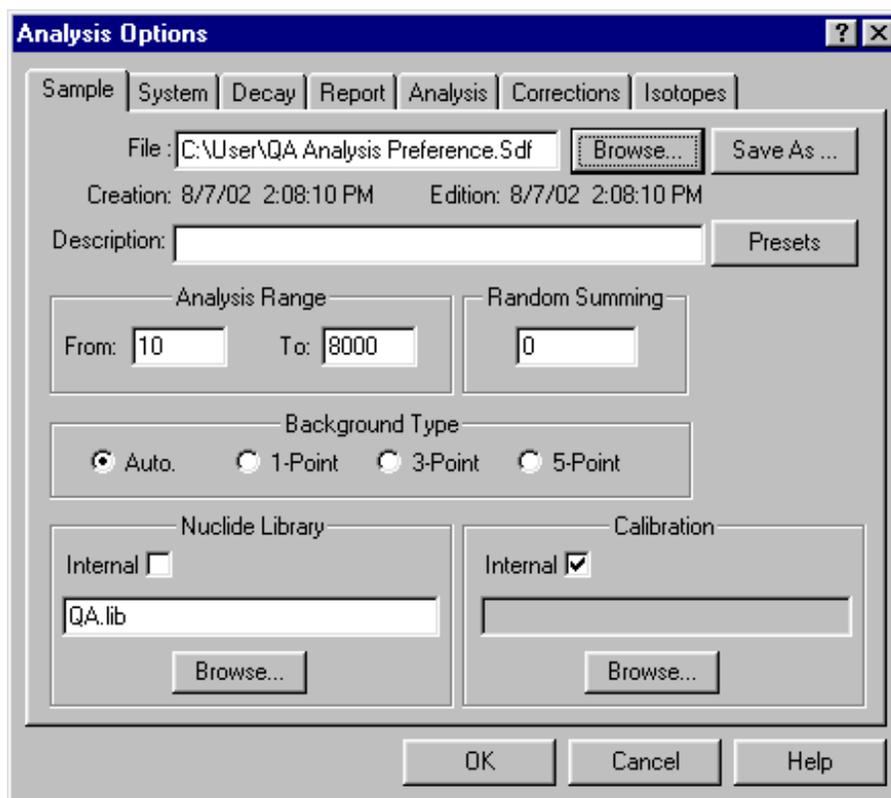

Figure 228. Typical Settings for Quality Assurance Analysis.
- 4) Select **Acquire/QA/ Settings...** to display the Quality Assurance Settings dialog for this detector (Fig. 227), then go to the **SAMPLE Type Analysis Settings File** section and click the **Edit** button. This will open the Analysis Options dialog (Fig. 228), which will allow us to create a sample defaults (.SDF) file for analyzing the QA acquisitions for this detector.